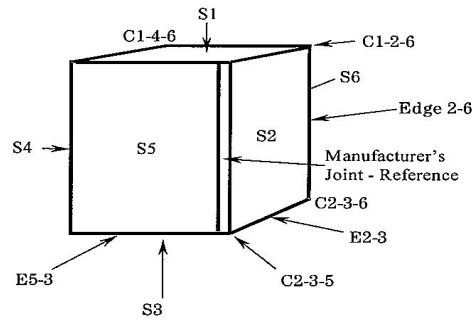

Figure 1.11.1.01 Packaged drop surface
4. The packaged is dropped once on each of the following Figure 1.11.1.01